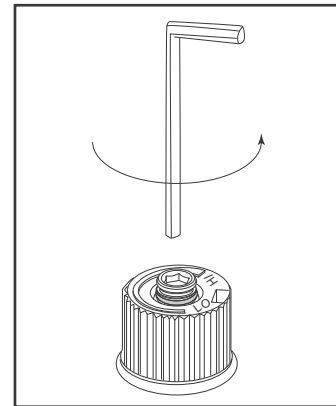

Figure 7.3
- Insert a 5/32" or 4 mm Allen wrench into the hexagonal keyway of the screw (Figure 7.3), rotate it counterclockwise until it is free and extract it.